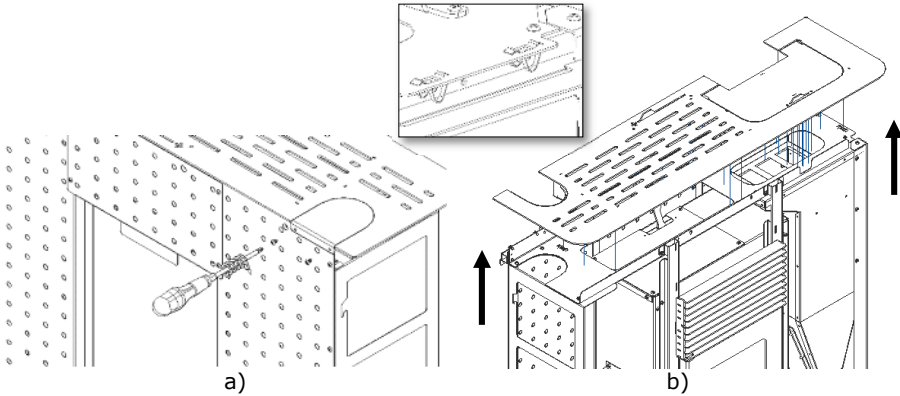

Figure 28 - Removing the upper cover
a) Remove the unit's upper lid. First, remove the small cover that is attached to the back by releasing the Figure 28-a). Then, slide the cover by pulling it up as shown. No tools are required as the cover is spring-attached to the unit (Figure 28-b).